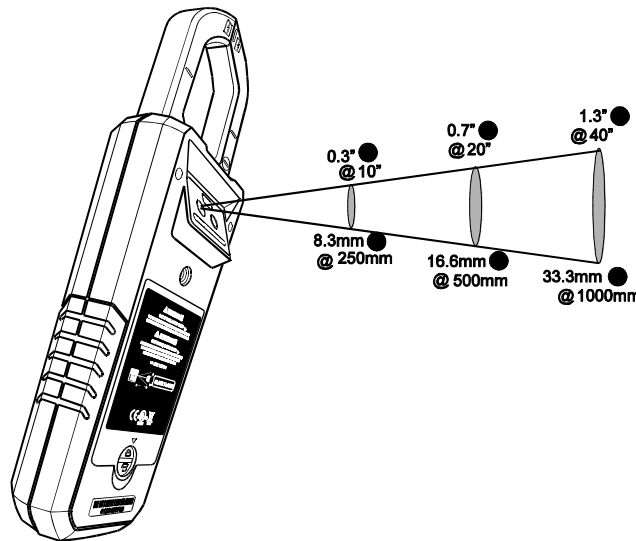

Fig. 8-2 Distance-to-Spot ratio 30:1
6. The Distance to Spot ratio for the imager is 30:1 meaning that the measurement spot is 30 times smaller than the distance from meter to spot (at a distance of 30", the meter 'sees' a target spot of 1"). **See Fig. 8-2.**